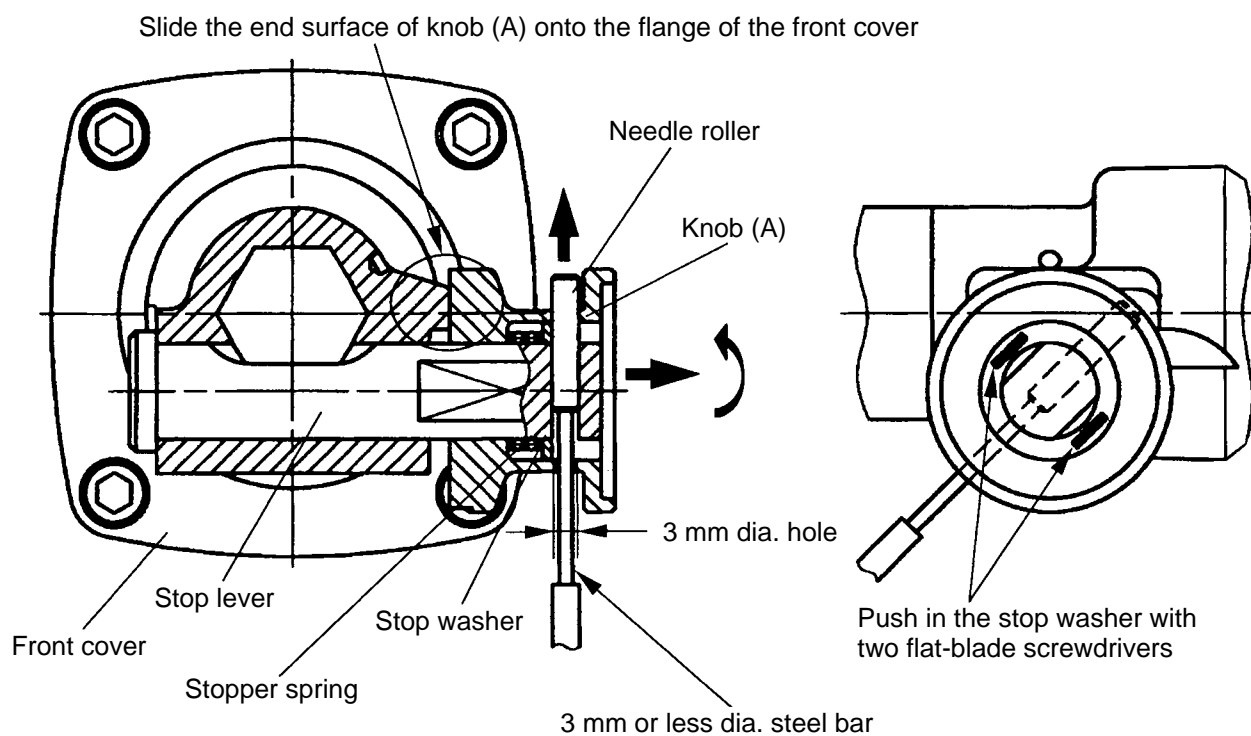

Fig. 13
Pull Knob (A) **[3]** in the direction indicated by the arrow, turn it slightly, and release it against the collar end of the Front Cover **[8]**. Then, push in the Stop Washer **[1]** with a flat-blade screwdriver or the like to compress the Stopper Spring **[2]**, and insert a thin (less than 3 mm dia.) steel bar into the knob hole to push out the Needle Roller D4 x 20 **[4]**. The Stop Lever **[6]** and Stopper Spring **[2]** can then be removed. (Fig. 13)
As illustrated in Fig. 13, ensure that the notched portions of the Stop Lever [6] and Knob (A) [3] are properly aligned during reassembly. If not properly aligned and assembled, the tool (bull point etc.) cannot be properly inserted into the retainer.